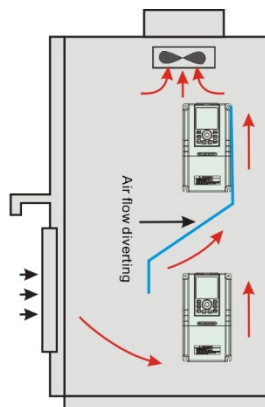

Fig.3-2 Mounting of multiple inverters
- ◆ When several inverters are installed in one cabinet, they should be mounted in parallel with special incoming and out coming ventilation and special fans. When two inverters are mounted up and down, an air flow diverting plate should be fixed as shown in Fig.3-2 to ensure good heat dissipation.